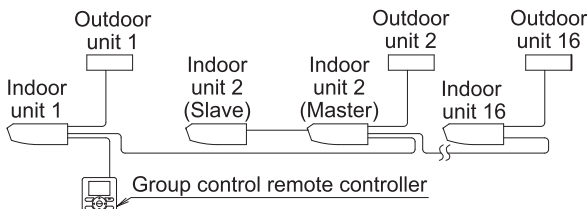

Fig. 34
- When using as a pair unit or as a master unit for simultaneous operation system, you may carry out simultaneous start/stop (group) control up to 16 units with the remote controller. (Refer to Fig. 34)
- (1) Remove the control box cover. (Refer to "9. HOW TO CONNECT WIRINGS AND WIRING EXAMPLE".)
- (2) Connect crossover wiring between the terminals (P1, P2) inside the control box for the remote controller. (There is no polarity.) (Refer to Fig. 34 and Table 3)